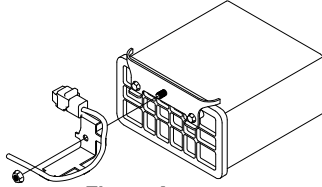

Figure A5
- Un-attach wiring bracket.** Locate the fuel vapor canister box mounted just under the front bed cross member on the driver's side of the truck. Remove the nut holding the wiring bracket to the back of the box. This will be relocated later, see figure A5.